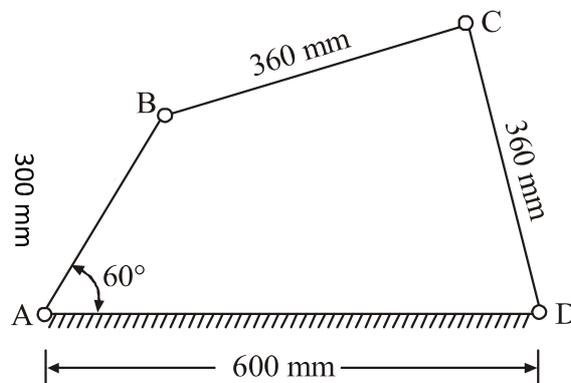

FIG.4
15. In a pin jointed four bar mechanism, (Fig. 4), $AB = 300$ mm, $BC = CD = 360$ mm and $AD = 600$ mm. The angle $BAD = 60^\circ$. The crank AB rotates uniformly at 100 rpm. Locate all instantaneous centre and find angular velocity of the link BC .